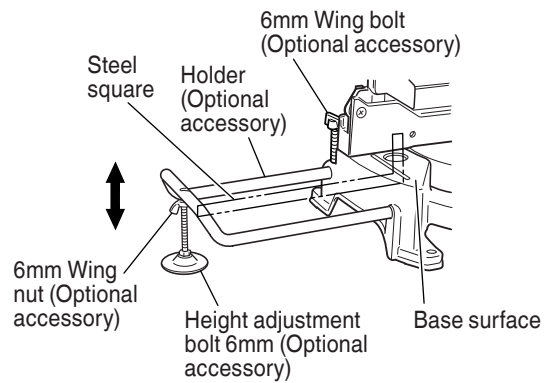

Fig.10
- (1) As indicated in Fig. 10, use a steel square for aligning the upper edge of the holders with the base surface. Loosen the 6mm wing nut. Turn a height adjustment bolt 6mm, and adjust the height of the holder.
- (2) After adjustment, firmly tighten the wing nut and fasten the holder with the 6mm wing bolt (optional accessory). If the length of Height Adjustment Bolt 6mm is insufficient, spread a thin plate beneath. Make sure the end of Height Adjustment Bolt 6mm does not protrude from the holder.